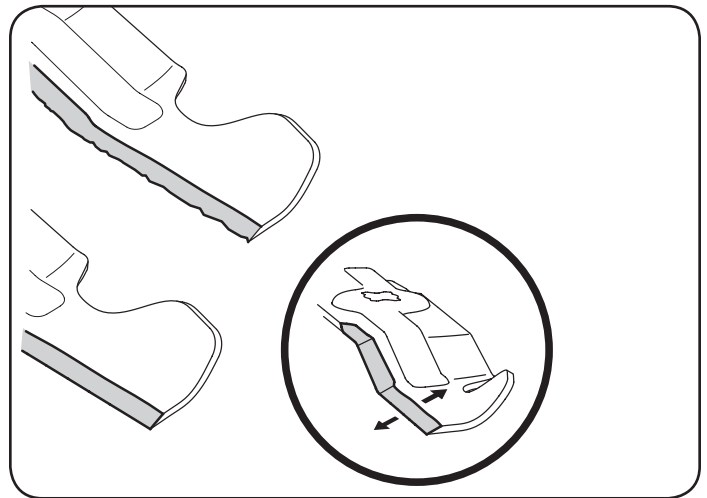

Figure 21
4. To properly sharpen the cutting blades, remove equal amounts of metal from both ends of the blades along the cutting edges, parallel to the trailing edge, at a 25°- to 30° angle. Always grind each cutting blade edge equally to maintain proper blade balance. See Figure 21.